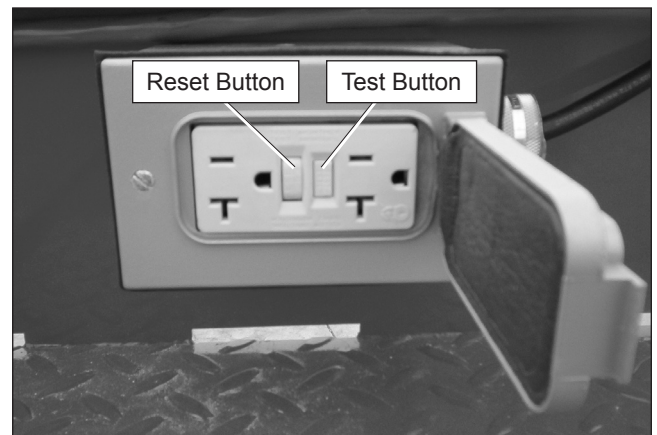

Figure 8.20 – Electrical Power Outlet
1. Push the test button (refer to Figure 8.20).